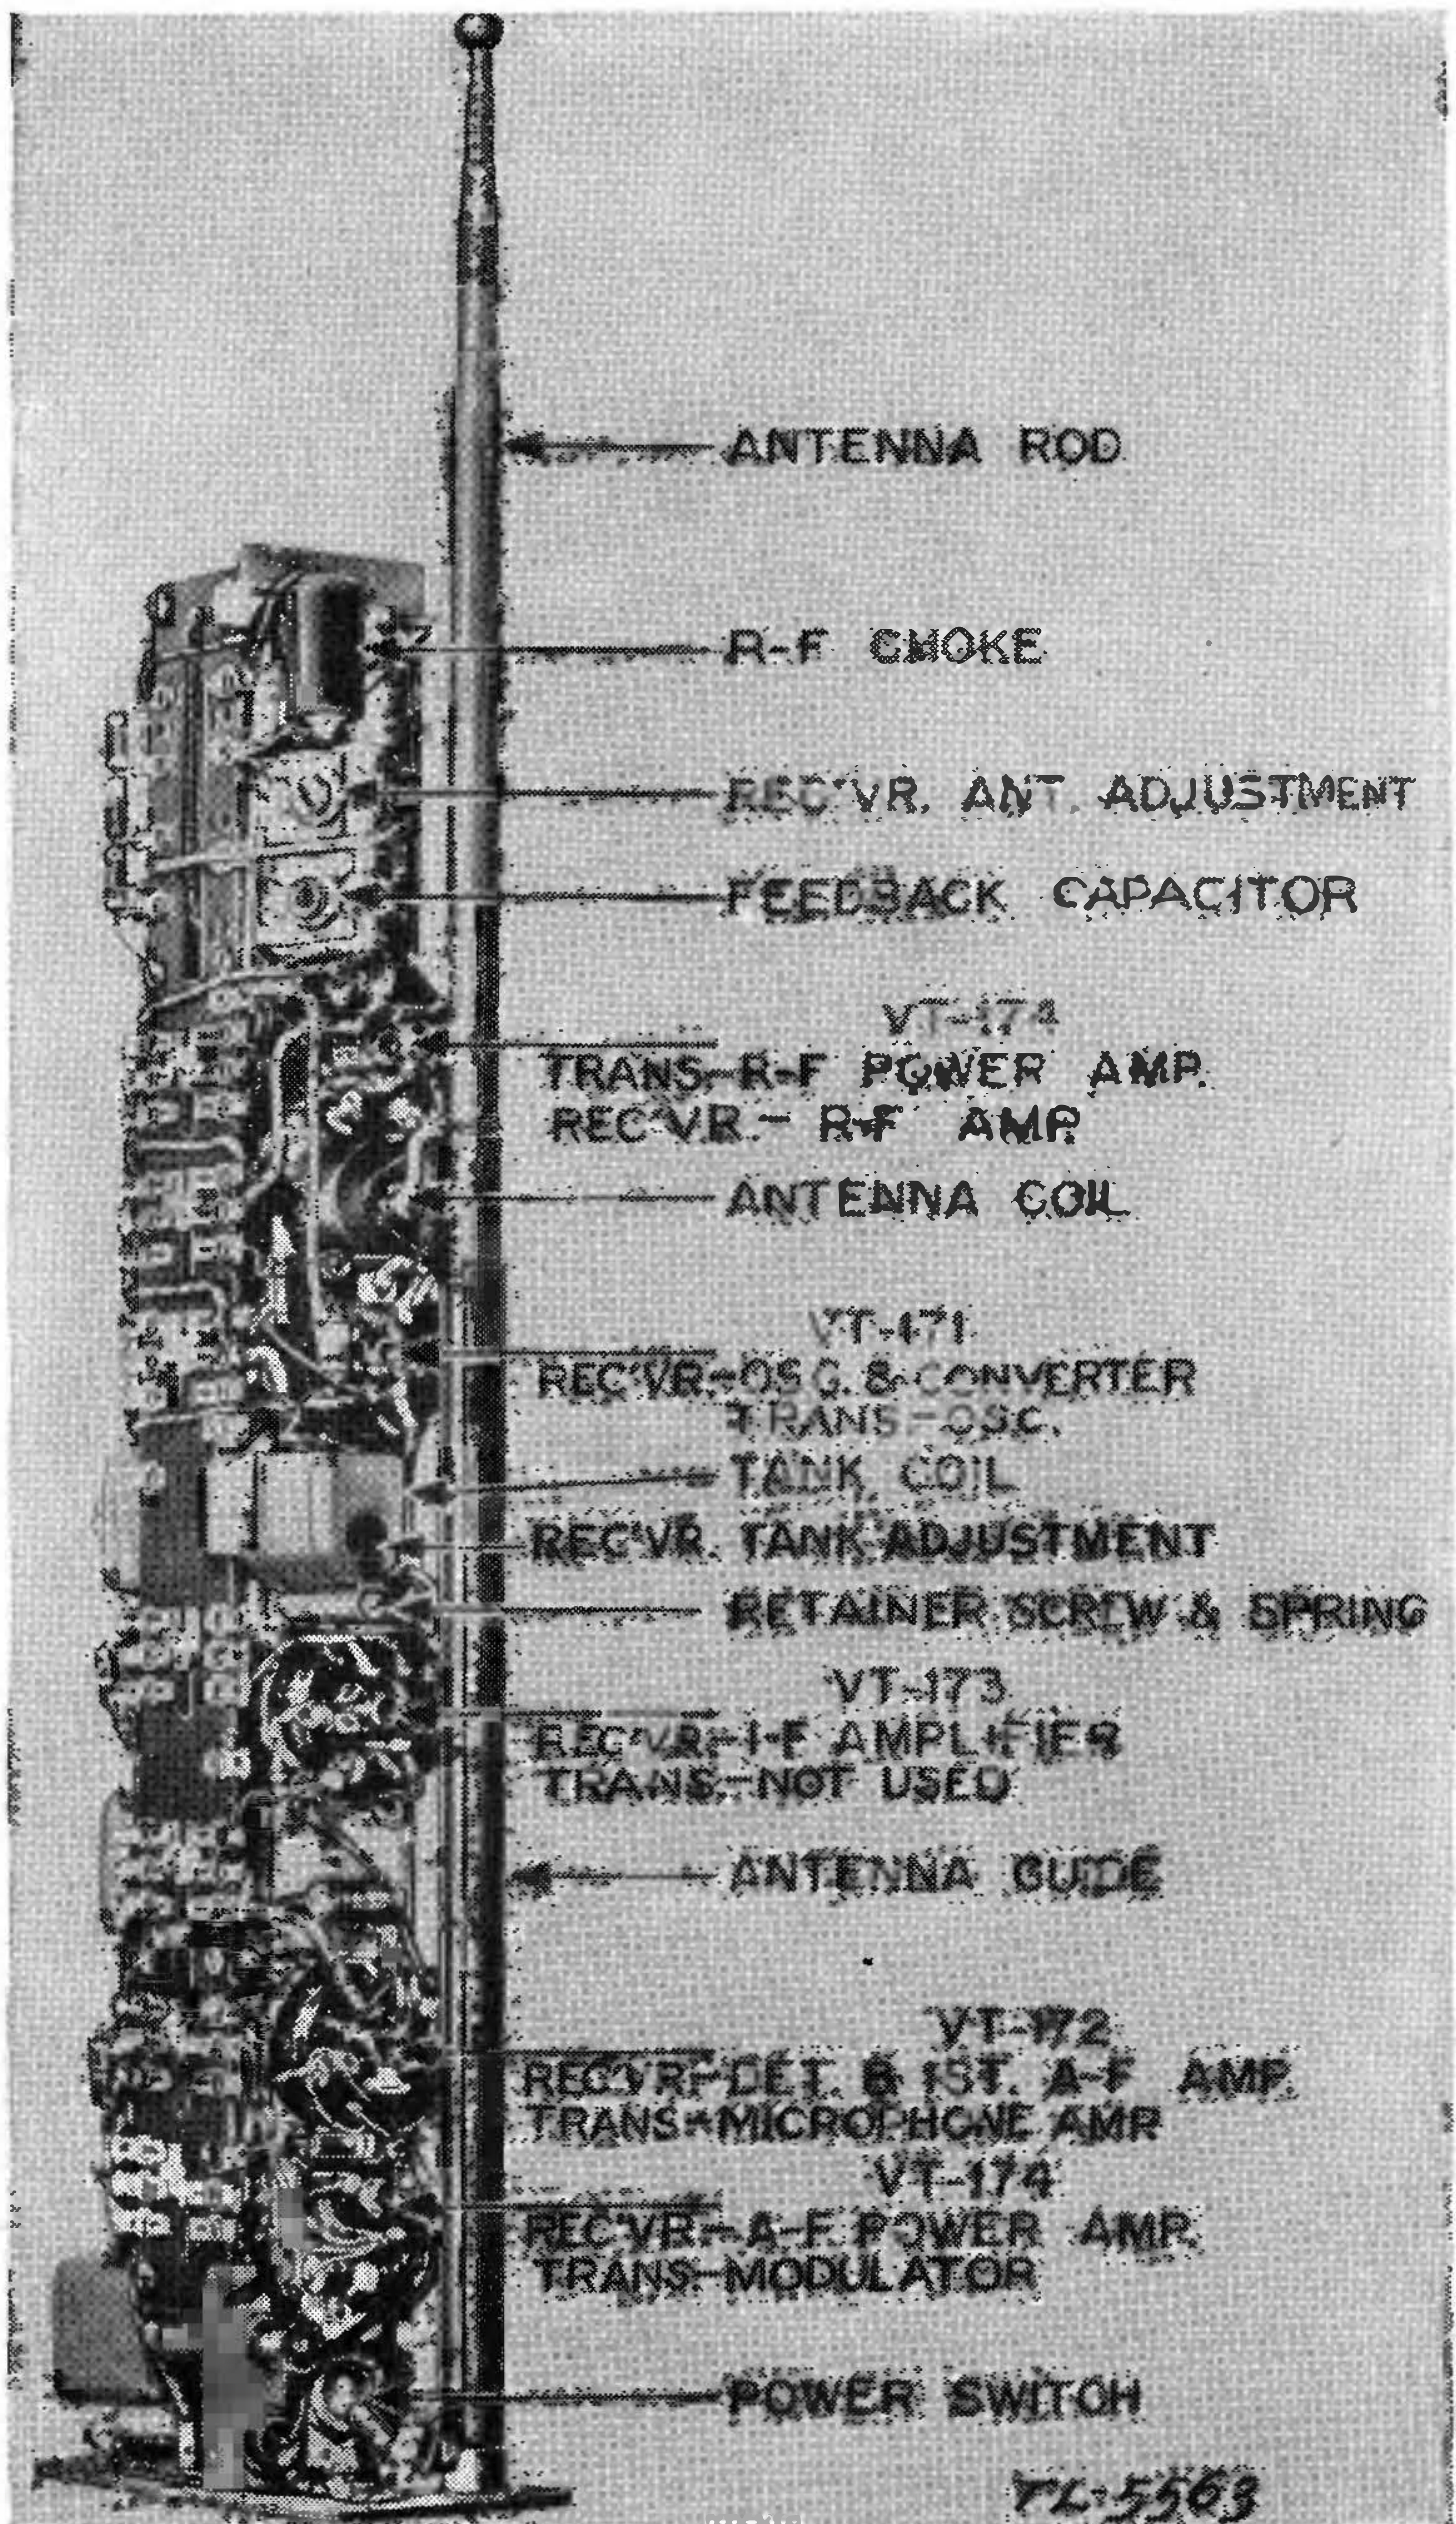

FIGURE 9.—Radio receiver and transmitter BC-611-(\*)—bottom view of chassis.
*b. R-f tank coil.*—To remove, loosen the screw holding down the coil retainer spring on top of the coil. (See fig. 9.) Swing the spring free of the coil. The coil then can be lifted out of the socket. When replacing with another coil of the desired frequency, carefully fit the coil over the two pins projecting up from the socket so that the pins fit into the holes in the coil form and the coil adjustment shaft fits into the hole in the socket. Gently press the coil into the socket, replace the coil retainer spring on top of the coil, and tighten the screw holding the spring.
*b. R-f tank coil.*—To remove, loosen the screw holding down the coil-retainer spring on top of the coil. (See fig. 9.) Swing the spring free of the coil. The coil then can be lifted out of the socket. When replacing with another coil of the desired frequency, carefully fit the coil over the two pins projecting up from the socket so that the pins fit into the holes in the coil form, and the coil adjustment shaft fits into the hole in the socket. Gently press the coil into the socket, replace the coil-retainer spring on top of the coil, and tighten the screw holding the spring.